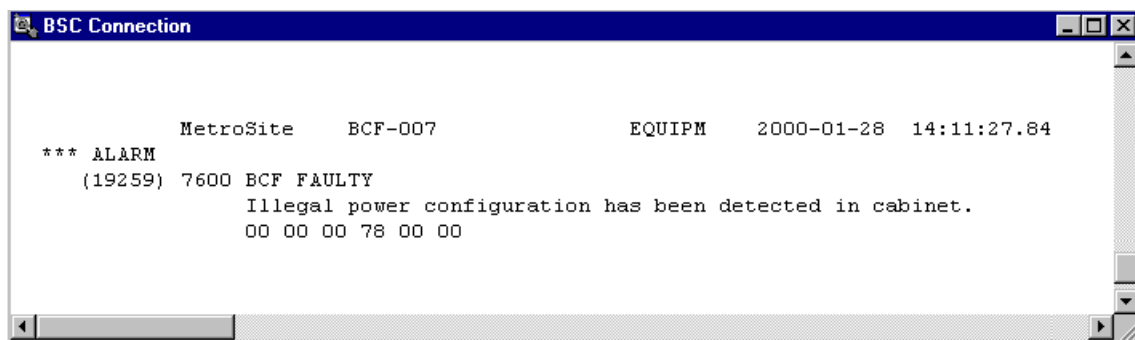

Figure 2. Example 2, active alarm as seen at the BSC
- Figure 2. Example 2, active alarm as seen at the BSC **12**